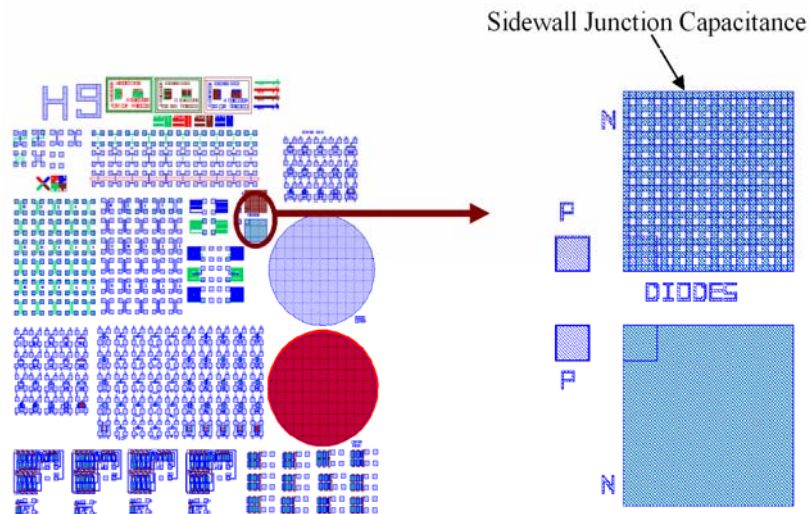

Figure 43: Diode from a cell
1. A diode in a cell is shown in Figure 43
2. In this case, sidewall junction capacitance is considered, see Figure 43